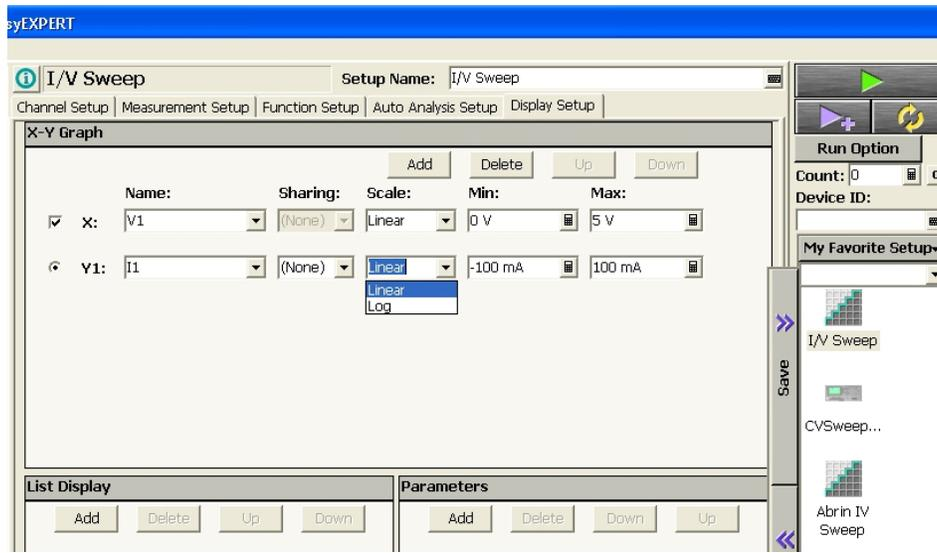

Figure 10: Display setup
12. Set up the X and Y axis for the graph, see Figure 10.